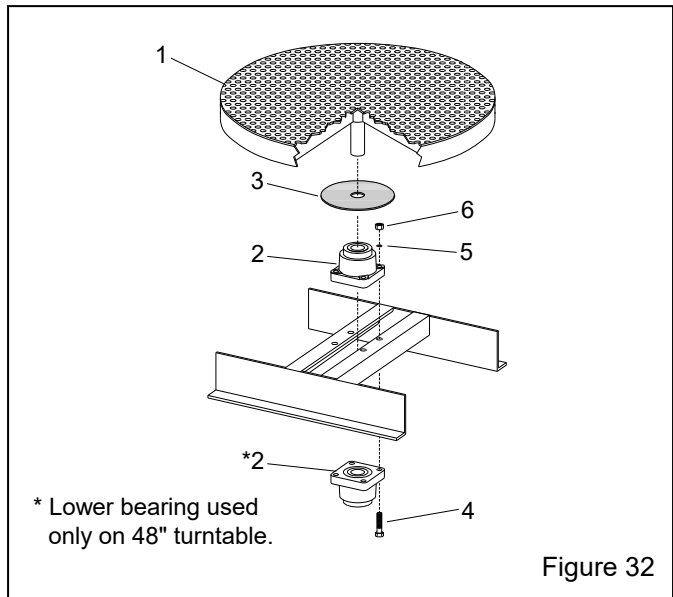

Figure 32
**Fixed-Base Turntable with Bearing, 500 lb Capacity – Figure 32**